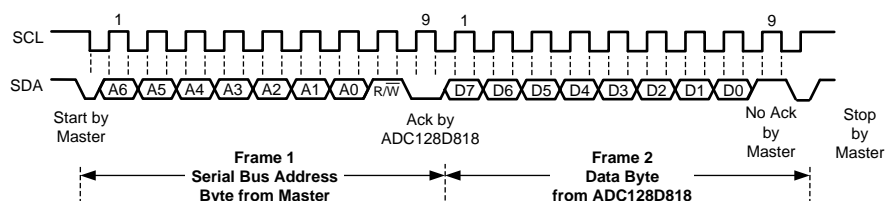
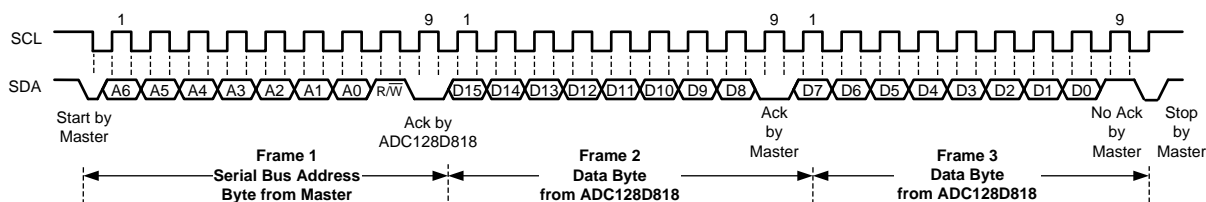
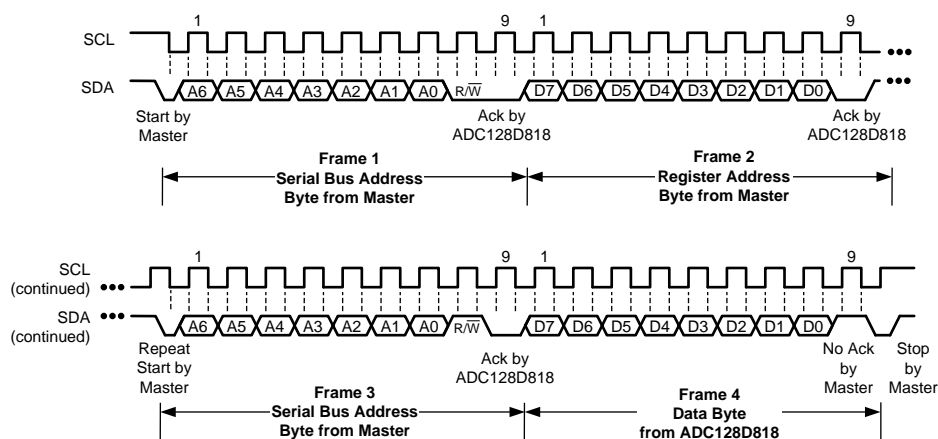
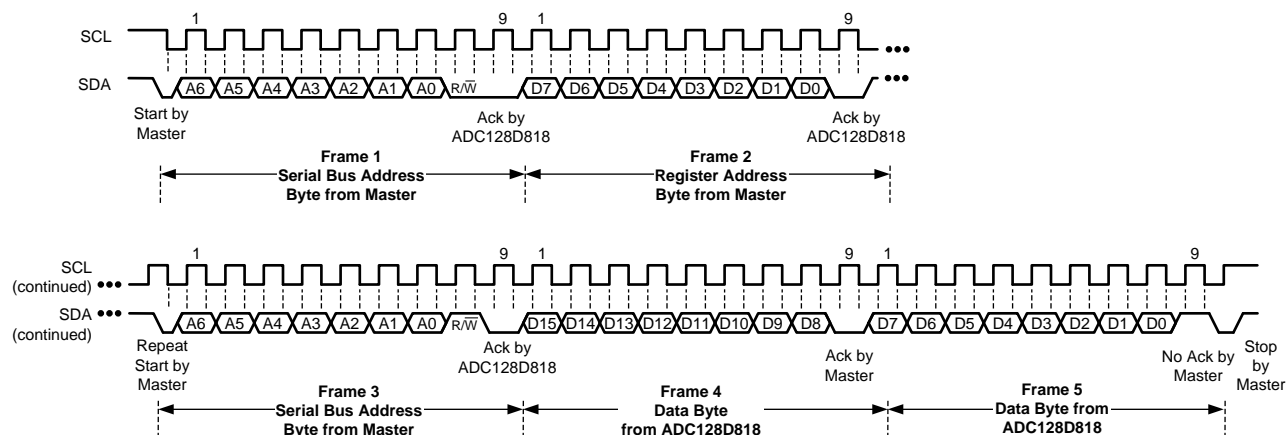

Figure 29. Serial Bus Interface Read Example 1 - Single Byte Read with Preset Internal Address Register.
Figure 30. Serial Bus Interface Read Example 2 - Double Byte Read with Preset Internal Address Register.
Figure 31. Serial Bus Interface Read Example 3 - Single Byte Read with Internal Address Set using a Repeat Start.
Figure 32. Serial Bus Interface Read Example 4 - Double Byte Read with Internal Address Set using a Repeat Start.
1. If the Register Address is known to be at the desired address, simply read the ADC128D818 with the Serial Bus Address byte, followed by the Data byte read from the ADC128D818. Examples of this type of read can be seen in Figure 29 and Figure 30.
2. If the Register Address value is unknown, write to the ADC128D818 with the Serial Bus Address byte, followed by the desired Register Address byte. Then restart the Serial Communication with a Read consisting of the Serial Bus Address byte, followed by the Data byte read from the ADC128D818. See Figure 31 and Figure 32 for examples of this type of read.
The ADC128D818 delta- V_{BE} type temperature sensor and delta-sigma ADC perform 9-bit two's-complement conversions of the temperature. This temperature reading can be obtained at the Temperature Reading Register (address 27h). This register is 16-bit wide, and thus, all 9 bits of the temperature reading can be read using a double byte read (Figure 30 or Figure 32). The following Figure 33 and the table below it show the theoretical output code (D_{OUT}) vs. temperature and some typical temperature-to-code conversions.